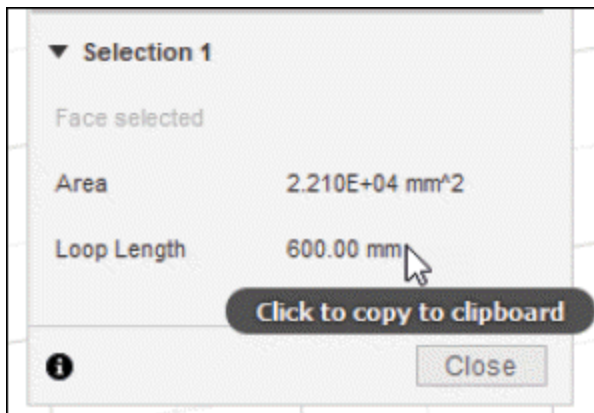

Figure-36. Copying measurement
- Hover the cursor on the respective measurement to copy the value to clipboard; refer to Figure-36.